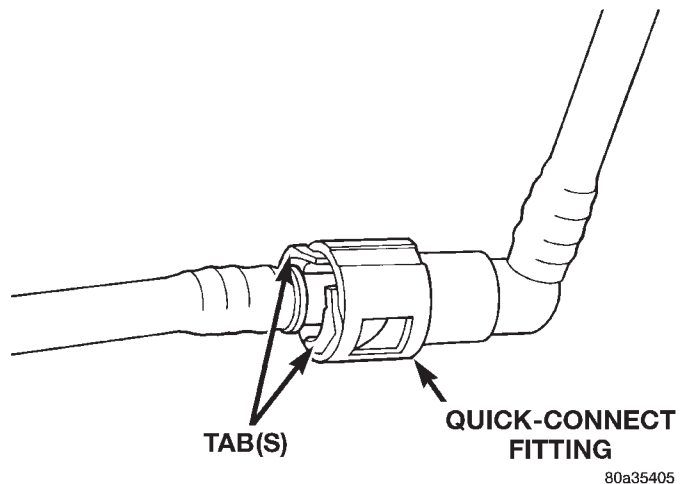

Fig. 18 Typical Two-Tab Type Quick-Connect Fitting
This type of fitting is equipped with tabs located on both sides of the fitting (Fig. 18). These tabs are supplied for disconnecting the quick-connect fitting from component being serviced.
- (1) Perform fuel pressure release procedure. Refer to Fuel Pressure Release Procedure in this group.
- (2) Disconnect negative battery cable from battery.
- (3) Clean fitting of any foreign material before disassembly.
- (4) To disconnect quick-connect fitting, squeeze plastic retainer tabs (Fig. 18) against sides of quick-connect fitting with your fingers. Tool use is not required for removal and may damage plastic retainer. Pull fitting from fuel system component being serviced. The plastic retainer will remain on component being serviced after fitting is disconnected. The o-rings and spacer will remain in quick-connect fitting connector body.
- (5) Inspect quick-connect fitting body and component for damage. Replace as necessary.